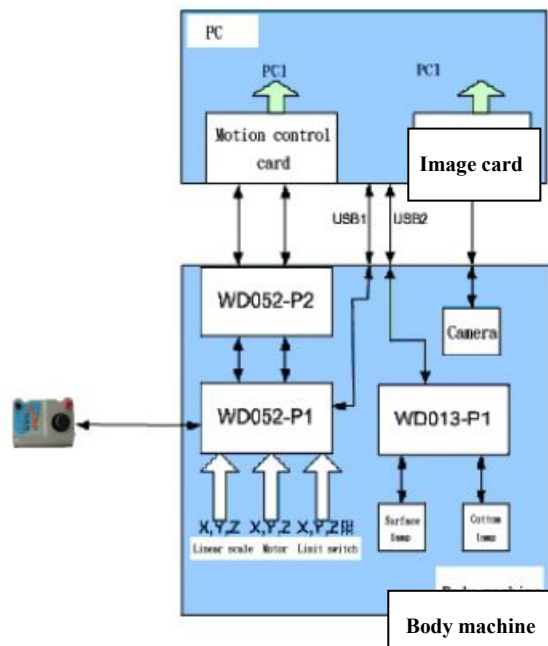

Fig.2 Instrument principle
Photoelectrical image measurement is one of advanced precise measuring methods. Its working principle refers to fig.1. Through illuminated of surface light (4) or contour light (embedded in the granite base), the image of the workpiece on worktable will be imaged by zoom lens (5) and then be captured by color CCD and sent to the image card (installed in PC). Then, the PC will read the data from the image card and then analyze and process it. There's no need to move the workpiece during the measurement. Firstly, the step motor will drive the ball screw to move. Then the ball screw will transform the revolving movement of the ball screw into linear movement of the work table (3). Finally, the worktable drives the linear scales to move along the X, Y axes. The whole measurement is controlled by the QMS3D software, which gives orders to the main board to accomplish the procedures of data read, motor control and light control. The working principle if the image system refers to fig.2.